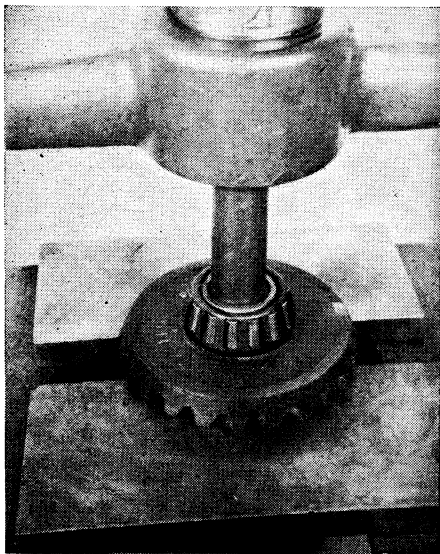

Fig. 20 Pressing cross shaft out of bevel gear and bearing
26. Press cross shaft from bevel gear and bearing, Fig. 20.